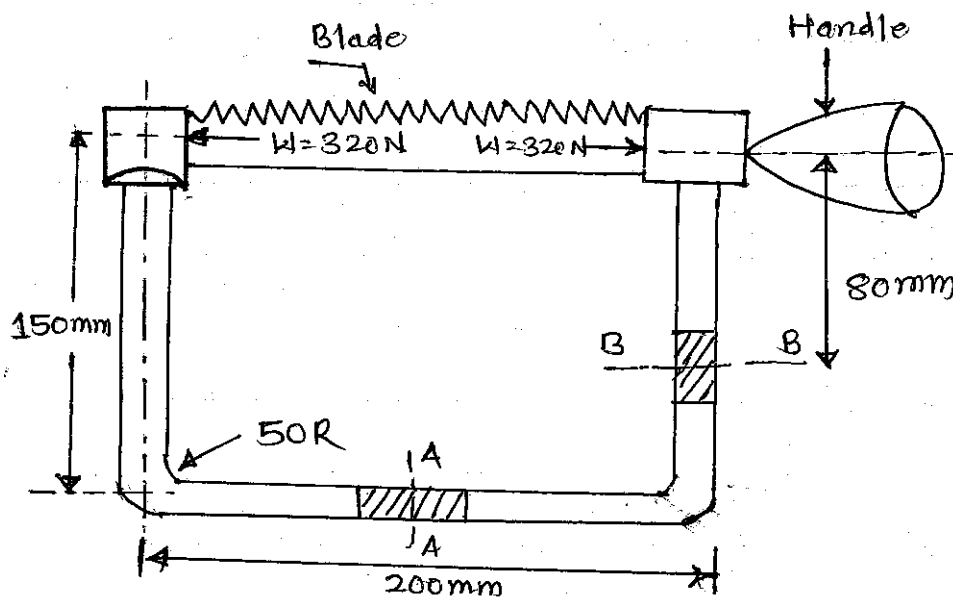

Fig. 1
- Fig. 1 shows a hacksaw. The blade is assembled with tension of $W = 320 \text{ N}$. The frame of hacksaw is made out of cold drawn steel, for which, yield point value in tension is 360 N/mm^2 . Design a rectangular cross-section of U-Frame at section 'A-A' and 'B-B'. Assume factor of safety = 4 and $b = 2.5t$. 8